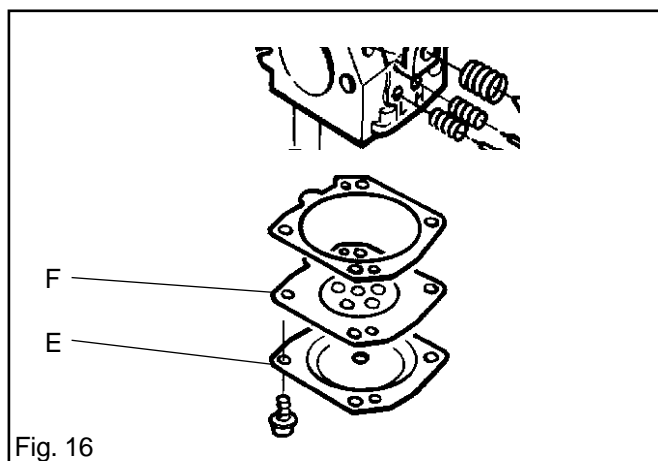

Fig. 16
7. Fit the metering diaphragm (F) with gasket and refit the cover (E) of the metering unit. See fig. 16.